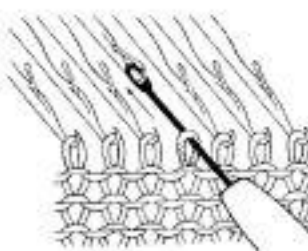

Fig. 39-3
- c) Push the needle back until the stitch slips onto the Transfer Tool. (Fig. 39-3)